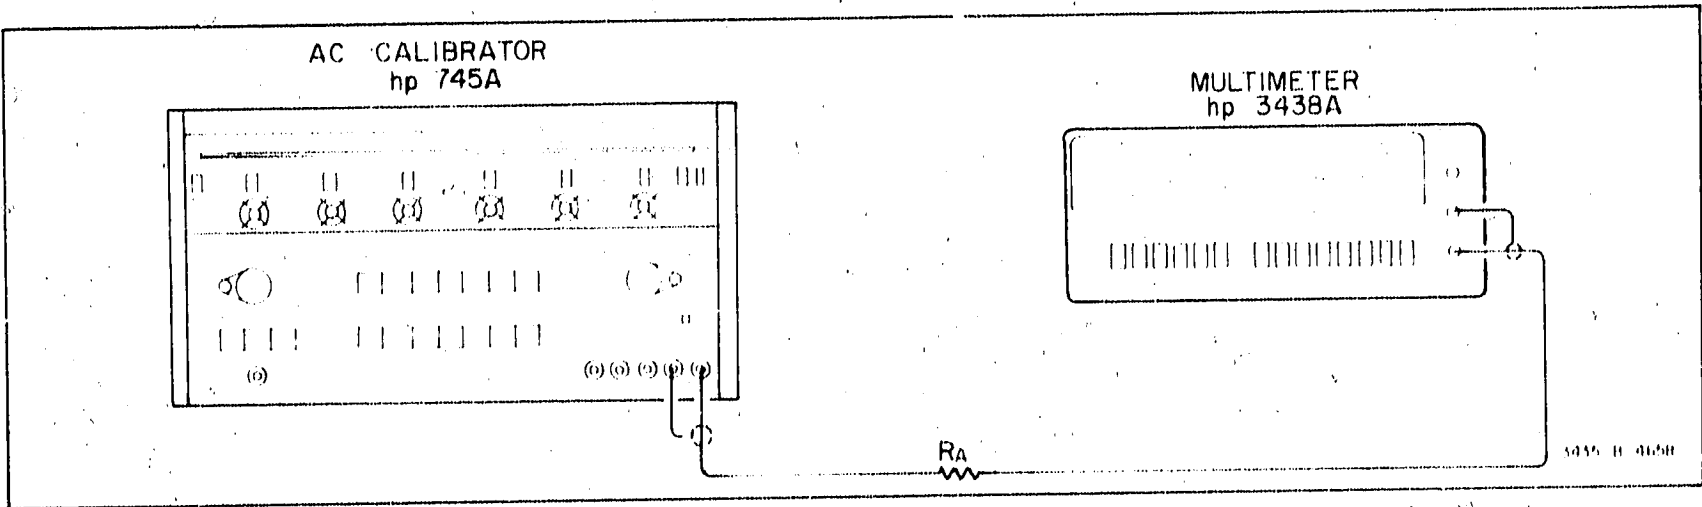

Figure 4-4. AC Ammeter Accuracy Test (200 μ A Thru 20 mA Ranges).
a. Connect the equipment as shown in Figure 4-4 using the decade resistor box to select the value of R_A . Set the Multimeter function to $\overline{\sim}$ mA. Using the values of R_A and AC Calibrator outputs shown in Table 4-5, check the 200 μ A, 2 mA and 20 mA Multimeter ranges at the frequencies listed.